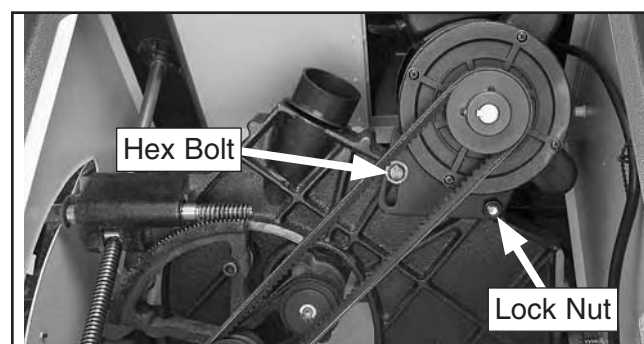

Figure 127. Motor mounting fasteners.
2. Loosen the hex bolt and lock nut shown in **Figure 127**, and pivot the motor up and down to make sure that it is movable.